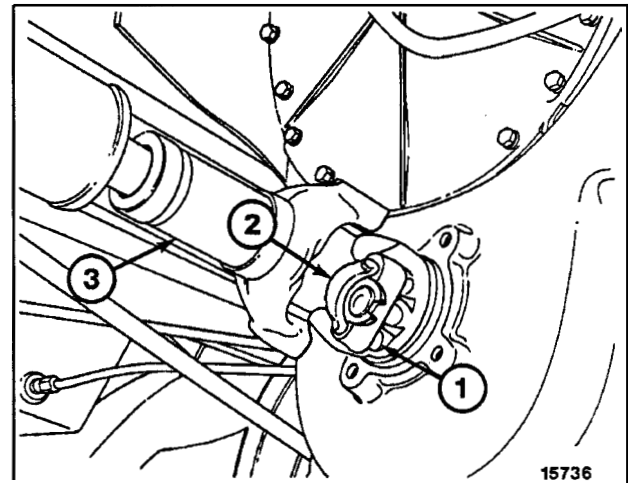

Figure 133
4. Position front drive shaft (3, Figure 133) against front output flange of transmission. Secure in place with two U-bolts (2) and four lock washers and nuts (1).